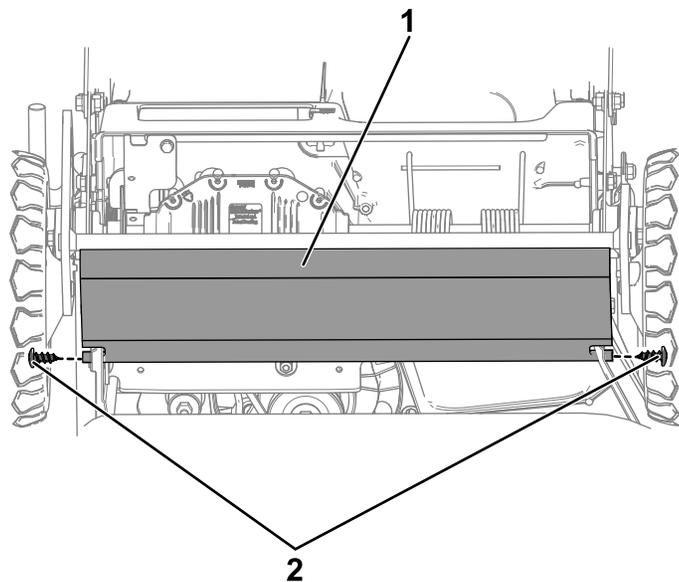

Figure 37
- 7. Remove the trailing shield by removing the 2 bolts holding it in place (Figure 37).